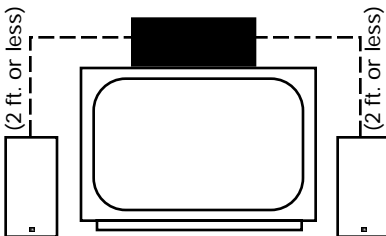

Fig. 2
**Center Channel Model:** As the center channel contains the dialog and other central action sounds, the speaker should be located very close to the Monitor/TV and centered with the Monitor/TV's center line. Place the J Center directly on top of or directly below the Monitor/TV with the front edge of the speaker grille flush with the edge of the Monitor/TV. You should have your Left and Right speakers within a 2 ft or less height range of your Center Channel for proper sonic performance (see Fig. 2).